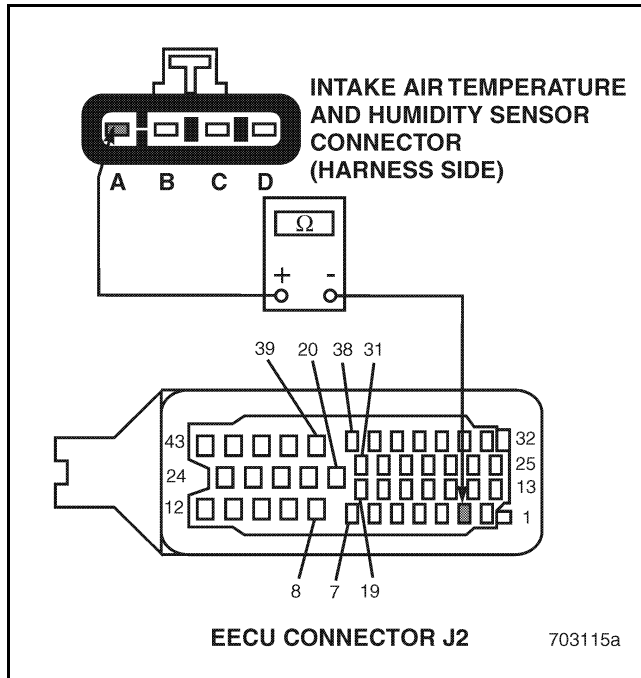

Figure 319
3. Check for continuity between the Intake Air Temperature and Humidity (IATH) Sensor harness connector pin A (reference voltage line) and EECU harness connector J2 pin 2 (see Figure 319).